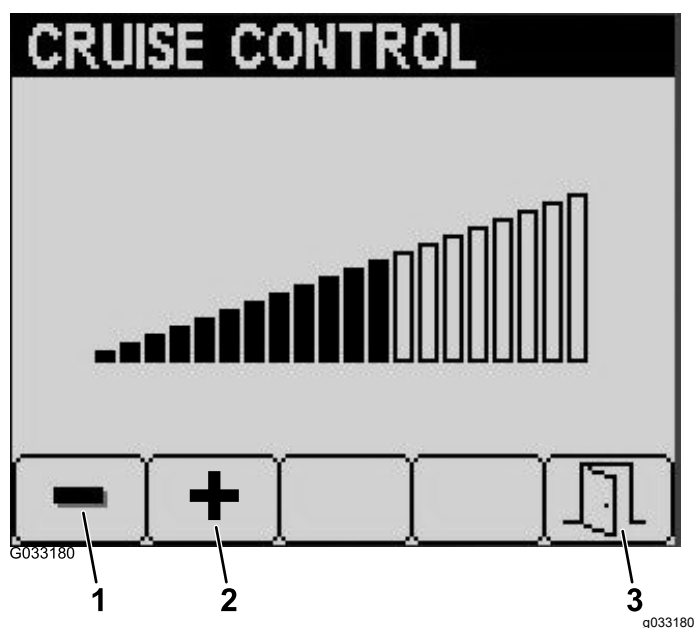

Figure 20
3. From the Cruise Control screen, press button 1 to decrease the cruise control speed or button 2 to increase the cruise control speed (Figure 20).
4. When you have set your desired cruise control speed, press button 5 to exit (Figure 20).